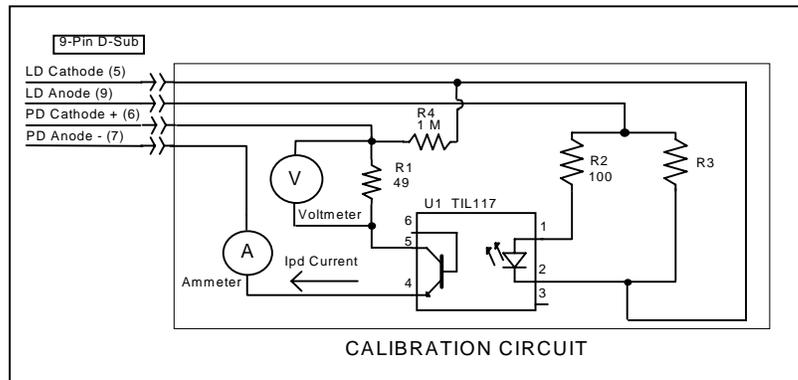

Figure 6.1 I_{PD} Calibration Circuit
It will be necessary to connect various loads and circuits to the outputs of each current source for the calibration procedure. A schematic is shown in Figure 6.1 for the photodiode calibration circuit with the required components listed in Table 6.2. Also, the devices required for other calibration loads are listed in Table 6.2.
PD Monitor Calibration (See Schematic in Figure 6.1)
- a. With the LASER output off, connect a calibrated ammeter to the PD Anode output of the Laser Current Source output connector (9 pin on rear panel), and connect the circuit of Figure 6.1 to the LASER and PD outputs with the correct load resistor for the Current Source model you are calibrating (See Table 6.2).
Note: If a precision ammeter is not available, use a zero-Ohm jumper in place of the ammeter. Then, place a calibrated DMM (with 0.1 mV resolution) to measure the voltage across the resistor, R1, as shown in Figure 6.1. Calculate the current in the following steps by using Ohm's Law: